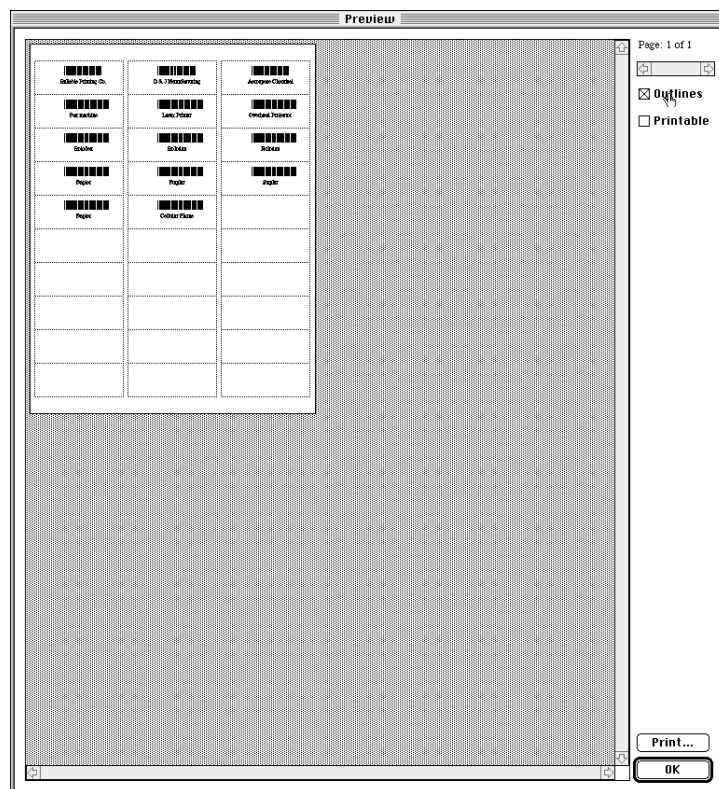

Figure 2-26 Print Preview with Label Outlines
4. Click the **Outlines** selection box. With outlines selected, an outline of the labels on your page is displayed. See Figure 2-26.